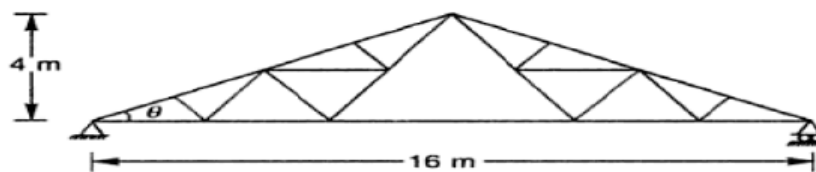

Figure 2
2. Determine the design forces in the members of the steel roof truss as shown in the Figure 2 16m span and resting on brick masonry walls. The trusses are placed 8m c/c. the rise of the truss is  $\frac{1}{4}$  of the span. Roofing is of asbestos cement of dead load  $171\text{ N/ mm}^2$ . The wind load normal to roof truss is  $940\text{N/ mm}^2$ . One end of the truss is hinged and the other end is supported on rollers. [12M]